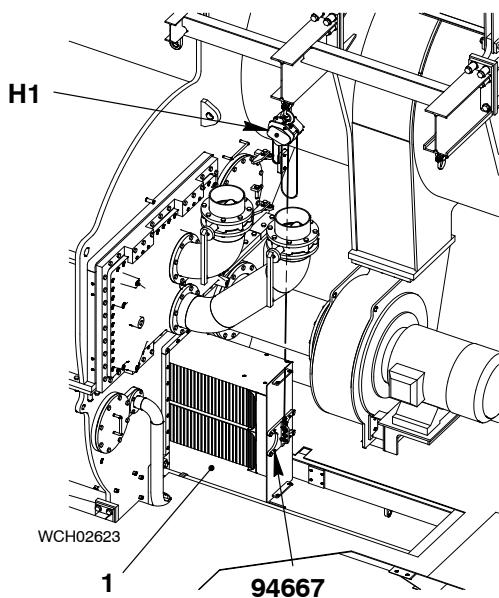
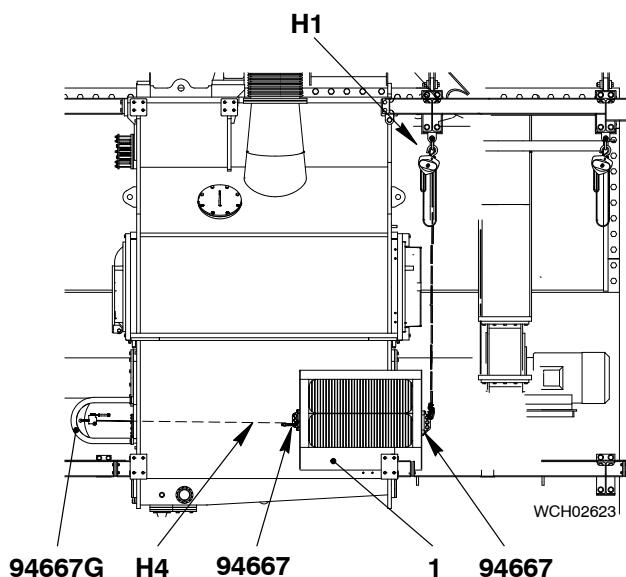

Fig. 12
Fig. 13
- 5) Remove the spur-gear chain blocks (H1, H2 Fig. 12) from the water separator (1).
- 6) Remove the tool (94667) from the top of the water separator (1).
- 7) Attach the spur-gear chain block (H1) to the tool (94667) on the front of the water separator (1).
- 8) Operate the manual ratchet (H4, Fig. 13) to pull the water separator (1) almost fully into the receiver. At the same time, operate the spur-gear chain block (H1) to hold the mass of the water separator.
- 9) Remove the spur-gear chain block (H1) from the tool (94667) on the front of the water separator (1).
- 10) Remove the tool (94667) from the front of the water separator (1).